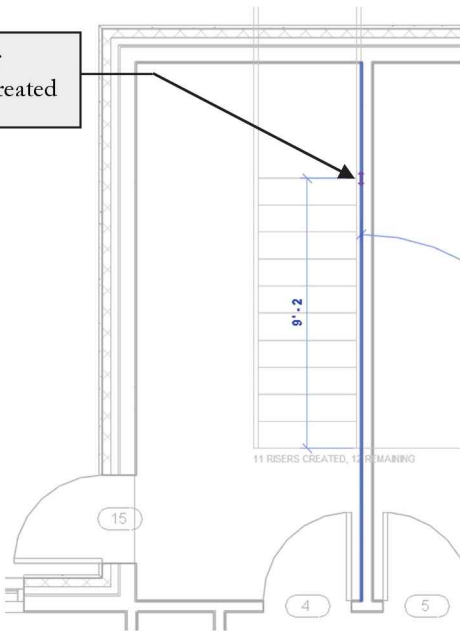

FIGURE 7-7.4 2nd pick
7. Pick the remaining points as shown in Figures 7-7.4, 7-7.5 and 7-7.6.